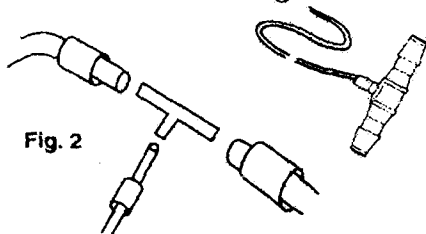

Fig. 2
4. Thread the 2 wider tube-retaining sleeves supplied, onto the cut ends of the air tube and the narrow sleeve over the **Miniblaster** air line (fig.2)